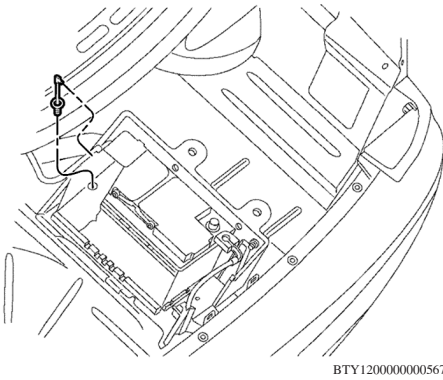

Fig. 2 Vent tube nipple location
6. Gently disconnect battery vent tube from battery nipple, **Fig. 2**.
3. Gently connect battery vent tube to battery nipple, **Fig. 2**.